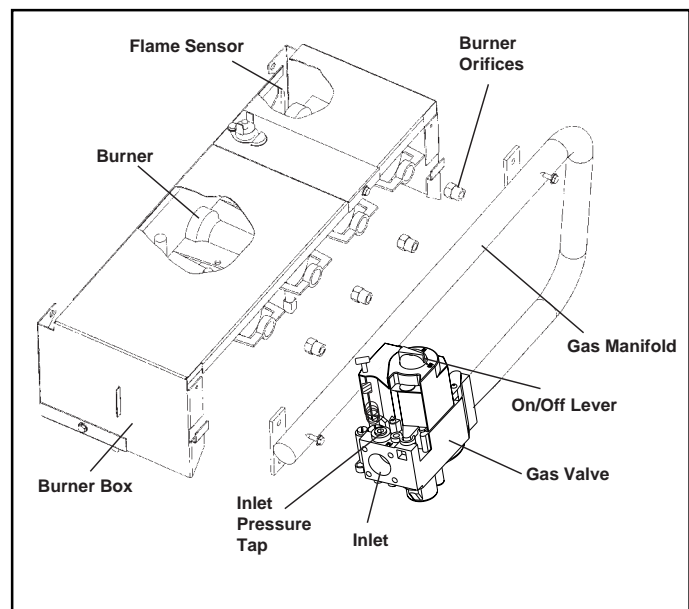

Figure 1. Typical Installation For Non-Sealed Burner Box
- Carefully remove the burner orifices from the gas manifold, as shown in Figures 1 and 2.